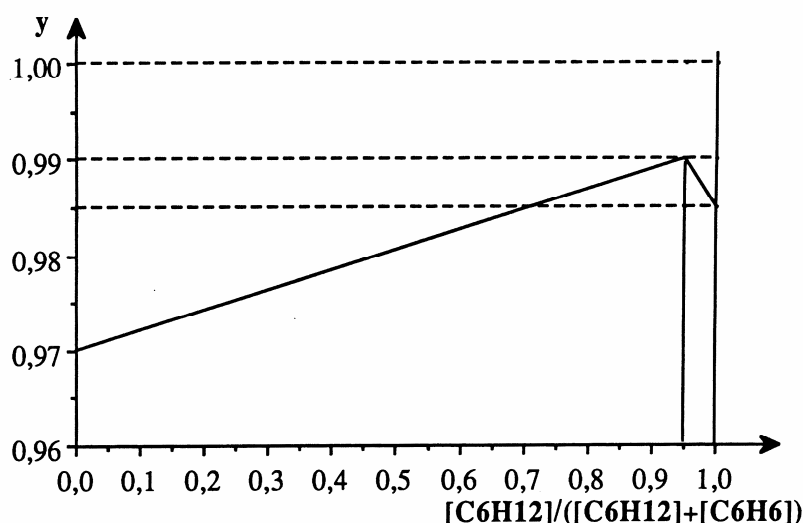

Fig. 3
The relationship between p and Y is shown in Fig. 3.
- 7.3 Represent by grey shading in the graph (Fig. 3) the quantities of benzene lost in installation P (plug flow reactor) and installation MP (stirred reactor + plug flow reactor).